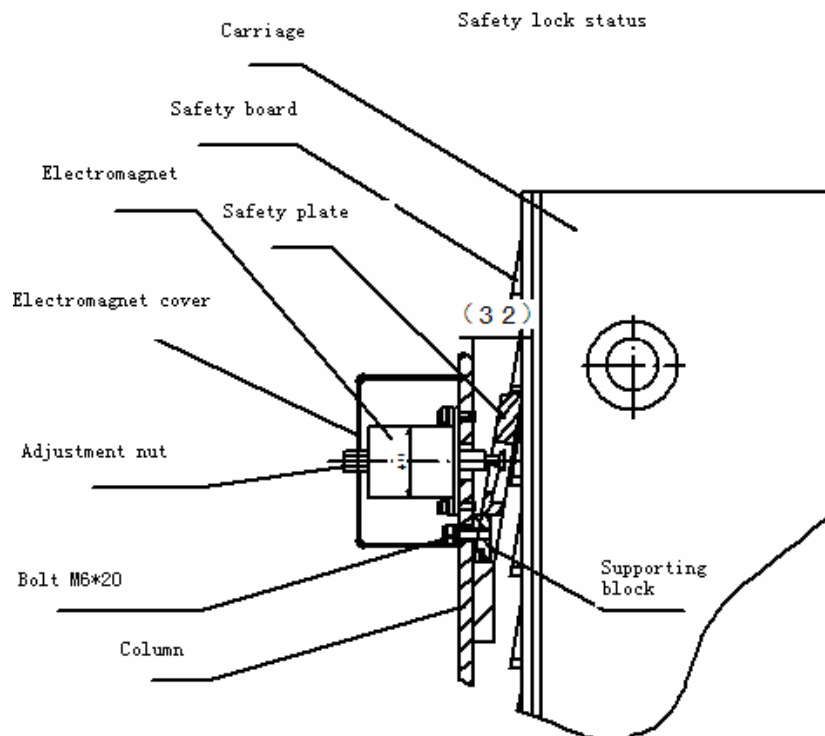

Fig 2e
- Principles of electromagnet safety lock mechanism: The upper end of safety plate moves along on the safety board. When the carriage rises, the orifice on the safety board uses its inclined angle to push away the safety plate so that the safety plate rises progressively. The safety plate will block into the safety orifice to prevent the fall of carriage in the event of the failure of carriage movement. (Fig. 3). To actuate electromagnet to make safety lock disengaged for carriage lowering (Fig.2e、 2f)